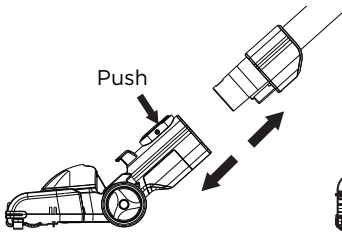

Fig. 19
2. Remove the floor head from the cleaner (fig. 19).